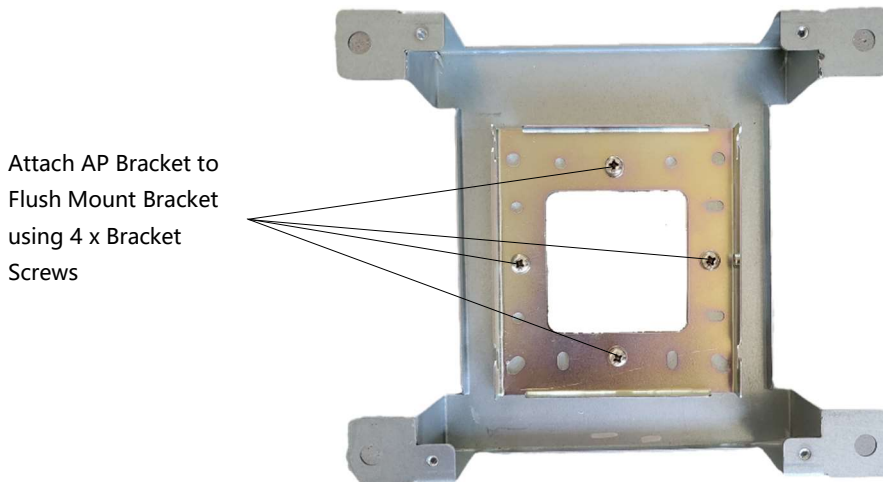

Figure 27: APV3-BDA - Mounting Standard Mounting Bracket to Flush Mount Bracket
- Install the APV3-BDA standard mounting bracket into the flush mount bracket using the (4) screws removed in the previous step. Ensure the standard mounting bracket is installed with the HEX Screw hole on the right side. See figure 27 below.